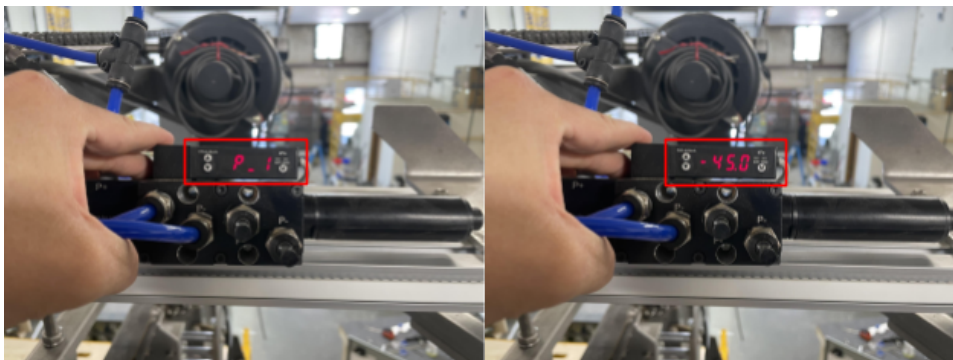

Fig. 7: Vacuum Generator sensor display alternating between "P_1" and current value
- After pressing "M", the display will flash between "P_1" and the current value for P_1, as shown in Fig. 7.